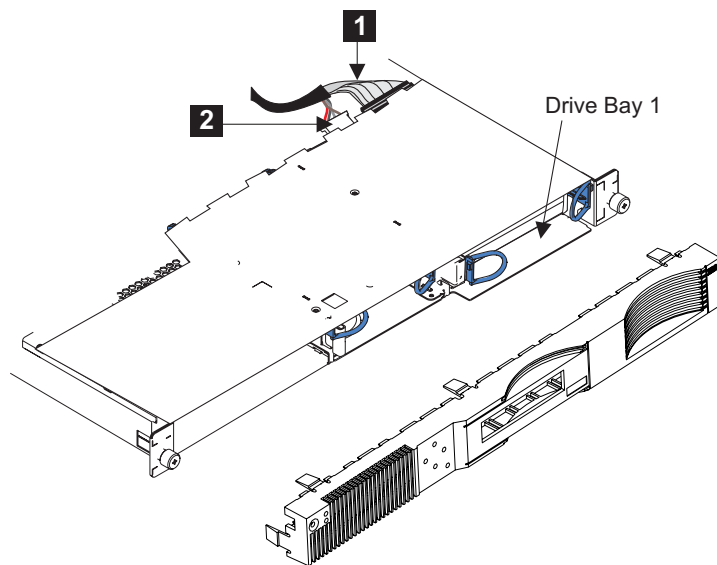

Figure 112. Removing the SAN Volume Controller 2145-4F2 disk drive cables
4. Disconnect the SCSI signal connector **1** and the power connector **2** from the back of the disk drive, and then remove the cable. See Figure 112.